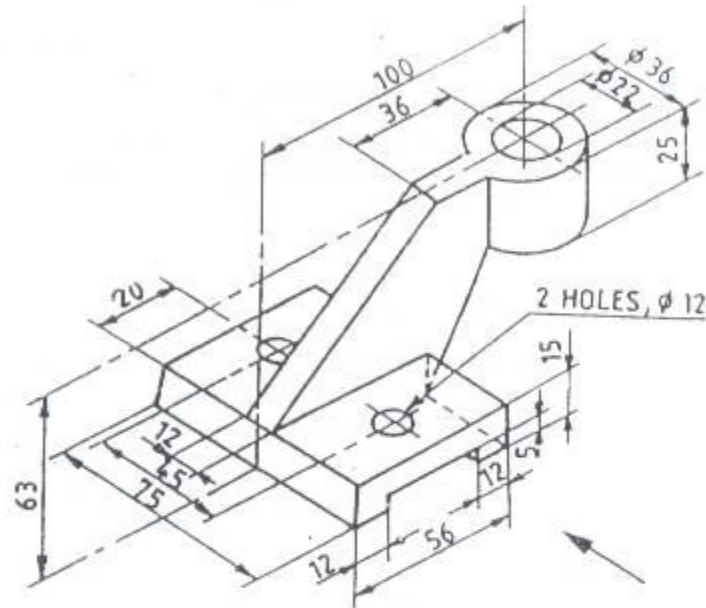

Fig 2
2. (a) Draw the following orthographic views of the machine component shown in Fig. 2.
- (b) The pictorial view of a machine components is shown in figure 2. Draw the three orthographic views. Arrow mark shows the front view of the component.
2. (a) Fig. 2 shows the pictorial view of a shaft support. Draw the following views.